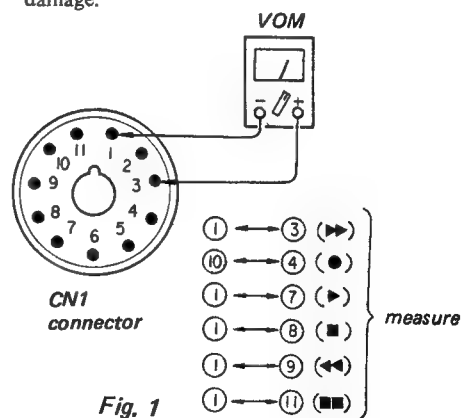

Fig. 1
2. Connect VOM as shown in Fig. 1. Then, push the each button one after another.